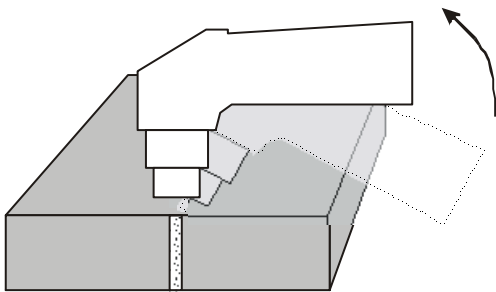

Fig. 6
6. We recommend starting cutting at the edge of the material. If needed to start from the centre of the material, or to cut hole into the material, slightly tilt the torch head and gradually it straighten into a vertical position so the spraying material would not damage the cutting tip (see Figure 6). This workflow must always be followed, if the thickness of material is above 3 mm.